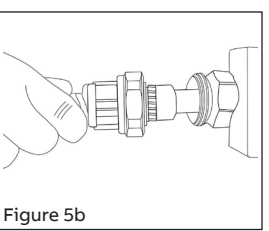

Figure 5b
- 6b Mount hub in desired location. Place encapsulated assembly into hub and secure in position by tightening union until it bottoms (metal to metal contact) (Figures 5b and 6b). Repack compound tightly around conductors if required. Allow compound to set for approximately one hour before disturbing conductors.